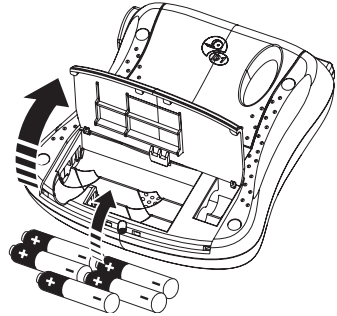

Figure 2
1. Press the thumb catch to open the battery access door. See Figure 2.